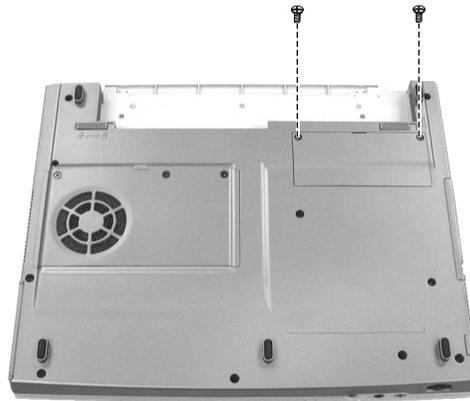

Figure 2-2 Remove the SO-DIMM compartment cover
3. Remove two screws to lift the SO-DIMM compartment cover. (See Figure 2-2)